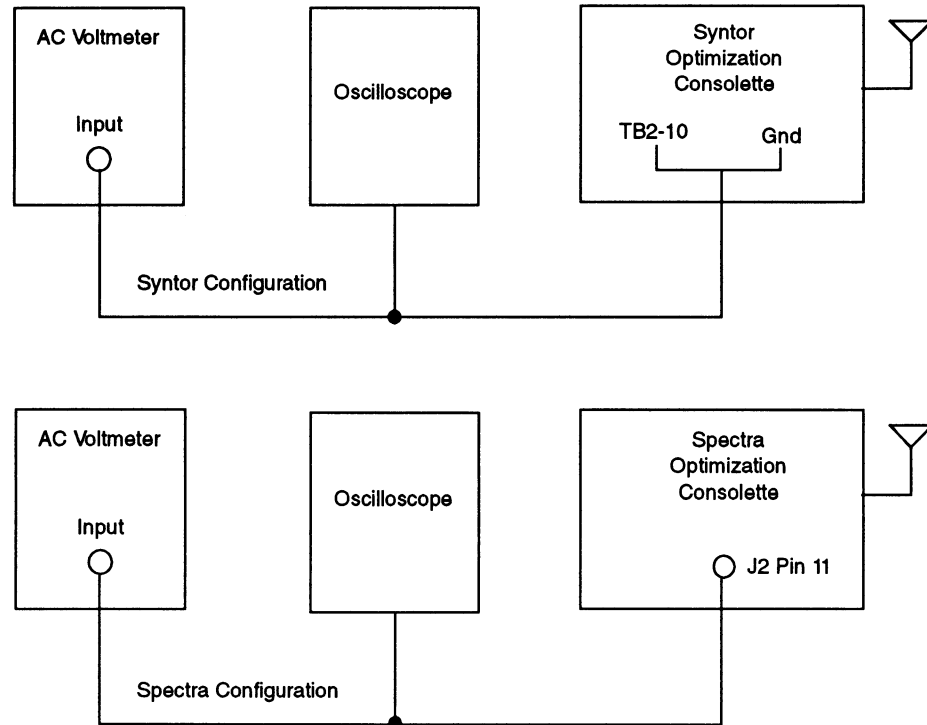

Figure 13. Clear System Amplitude Optimization Test Equipment Set Up
- Step 5. Set up your equipment as shown in Figure 13. Use the oscilloscope to monitor the waveform.
Step 6. Set up your equipment as shown in Figure 13. Use the oscilloscope to monitor the waveform.